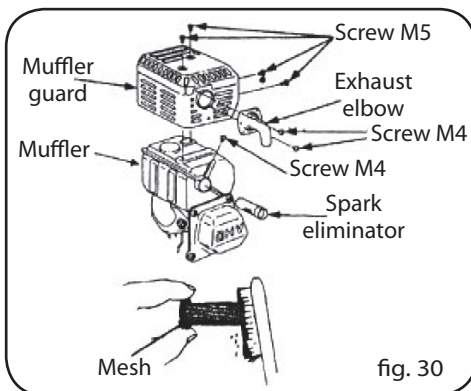

fig. 30
- Unscrew two nuts M4, and remove the exhaust elbow from the engine body (Fig. 30).